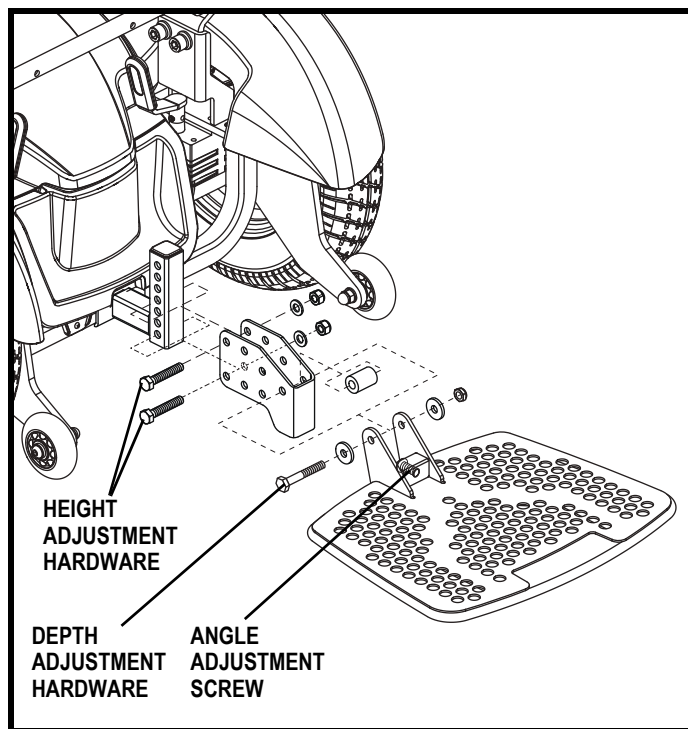

Figure 12. Foot Platform Adjustment
1. Flip up the foot platform and locate the angle adjustment screw. **See figure 12.**
You may be able to adjust the height and depth of the foot platform. **See figure 12.**